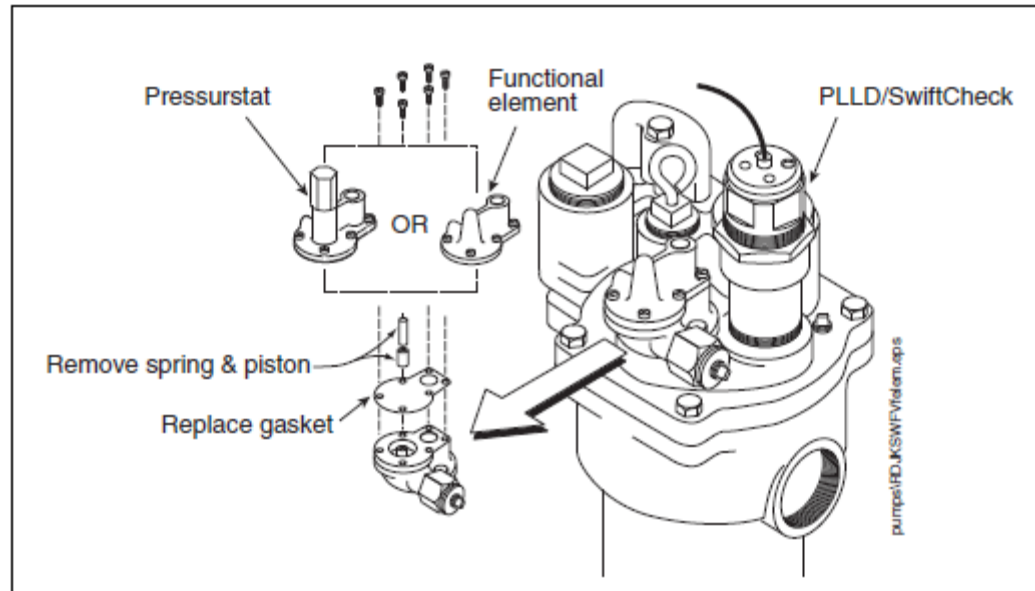

Figure 6. Modifying The Pressurstat/Functional Element In Red Jacket Pumps
9. The PLLD SwiftCheck valve eliminates the need for the pump's Pressurstat or functional element relief valve so it must be modified as part of the PLLD system installation. Remove the six 1/4-28 slot-head screws from the Pressurstat or functional element [Figure 6].